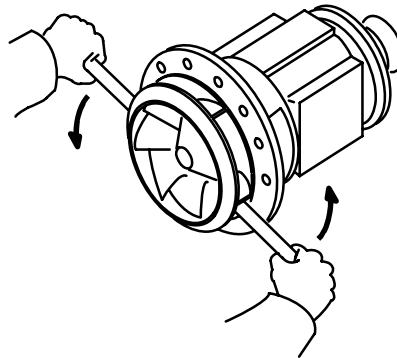

Fig. 2
- 4 Detach the impeller by turning it counter-clockwise. Push e.g. pieces of wood between the impeller vanes to ease the detachment. Never use metal bars or the like, because they might damage the impeller vanes. Fig. 2.